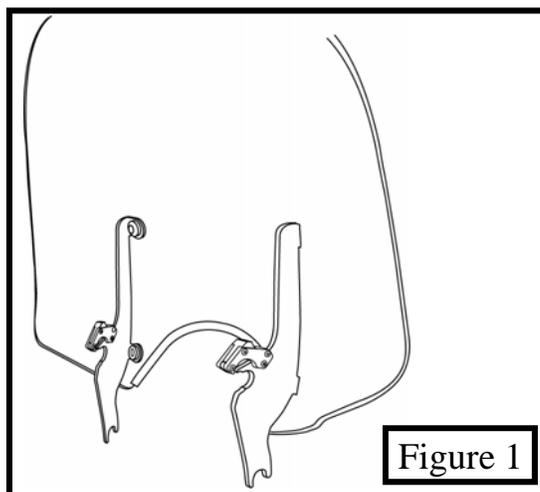

Figure 1
2. Install the windshield mounting plates onto the windshield, using the bolts that are pre-assembled on the mounting plates. The Santoprene grommets should be inserted through the holes in the windshield so that the flat round part of the grommet lies flat on each side of the plastic. *Tabs point in towards the headlight.* (see figure 1).